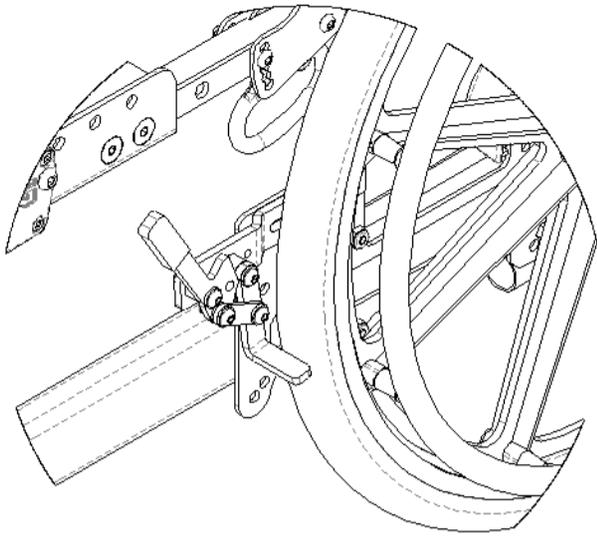

Figure 15.38: *Push to Lock Wheel Locks (Standard)*
1. To engage the push to lock wheel lock (see Figure 15.38), push the lever forward, away from the wheel, until it locks into place.